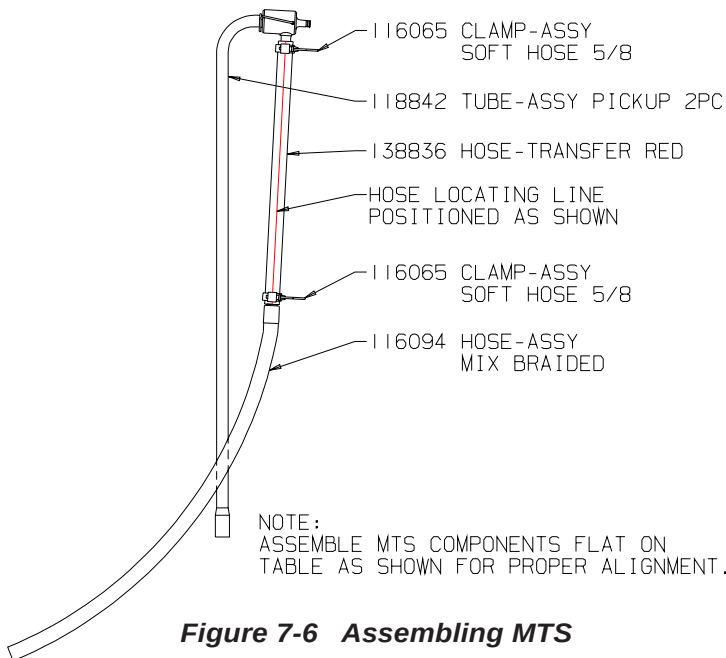

Figure 7-6 Assembling MTS
13. Slide another clamp over the mix transfer hose and connect to the barbed end of the braided hose. Tighten the clamp. Finger tighten only! The thumb screw must lay horizontal as shown in figure 7-6.